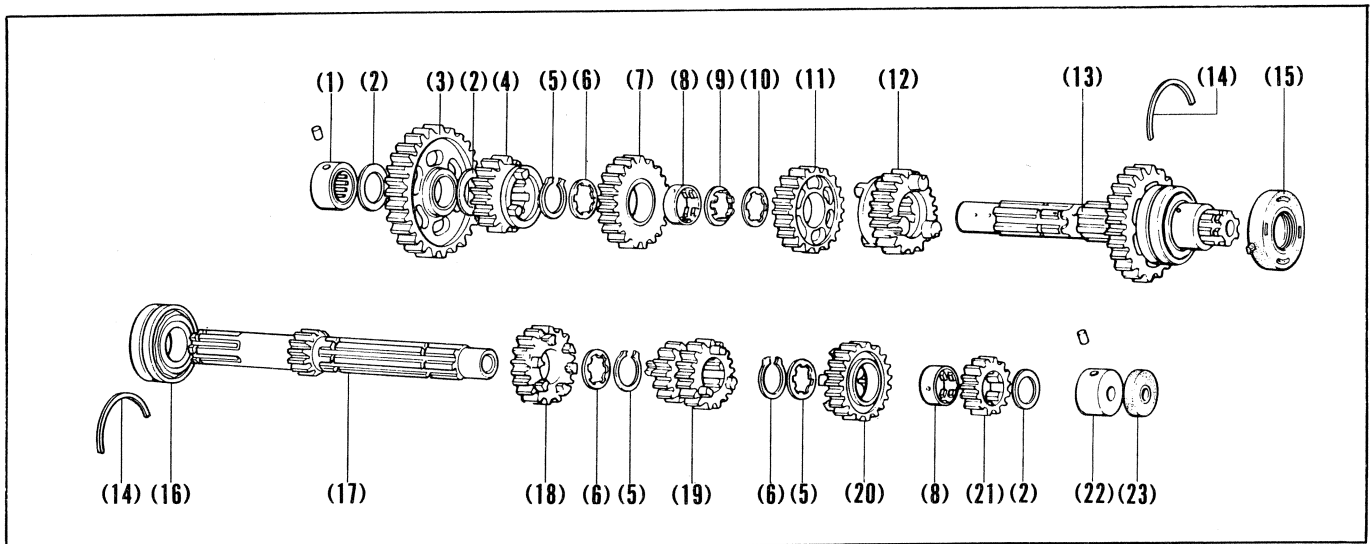

Fig. 4-93 (1) 20 mm needle bearing
(2) Gearshift fork guide shaft
5. Assemble the mainshaft and countershaft as shown in Fig. 4-93.